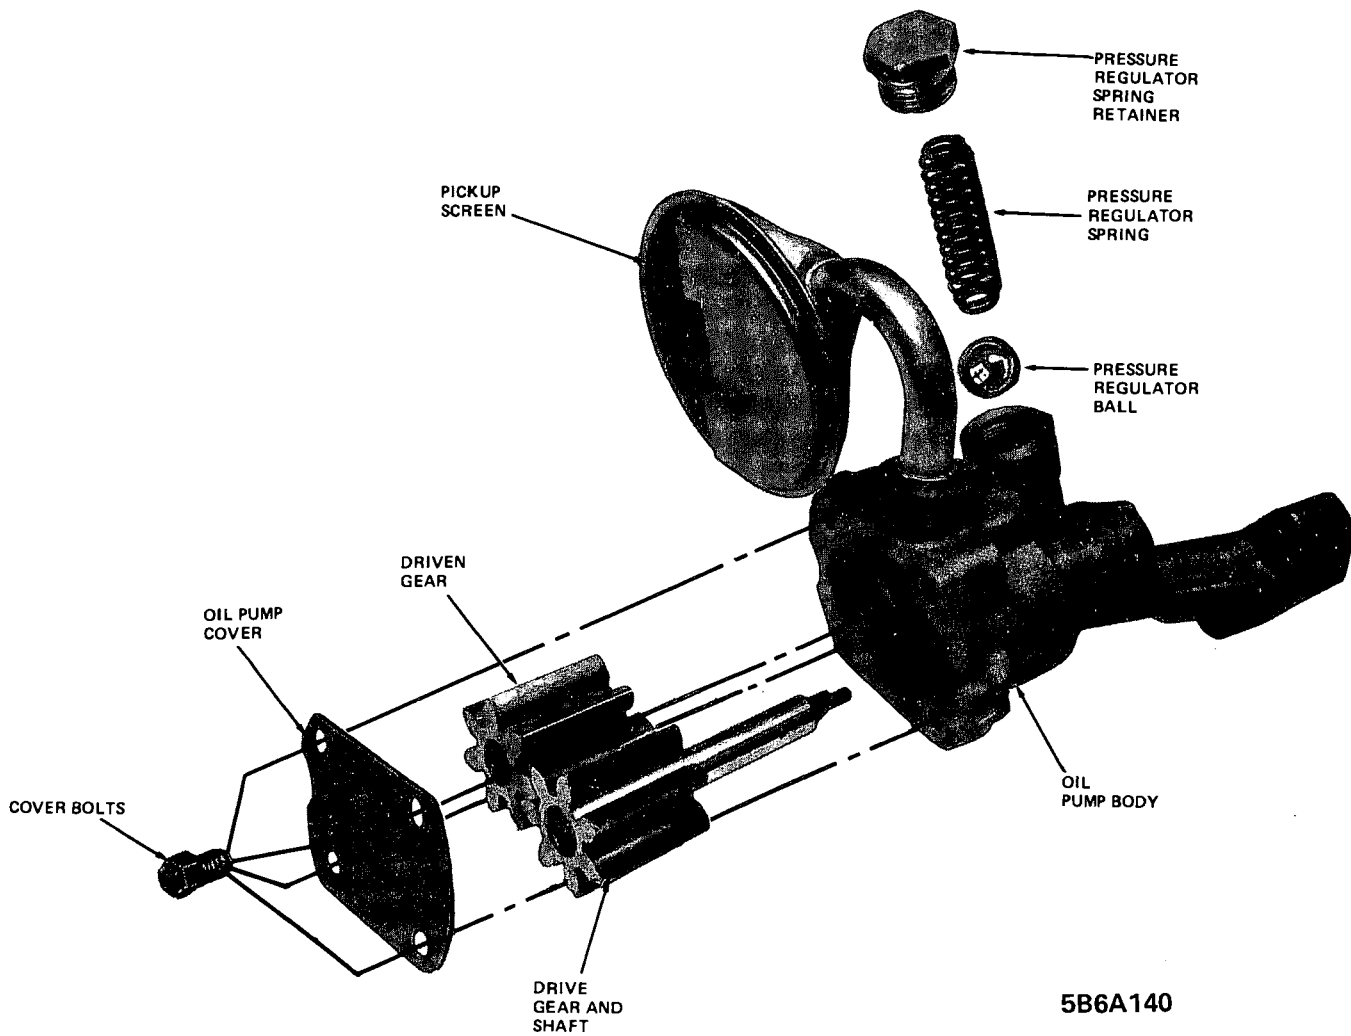

Figure 6A-140 - Oil Pump - Exploded View
e. Remove the newly formed seal from the cap and cut four (4) pieces approximately 3/8" long from this seal.
g. Form another new seal in the cap (Figure 6A-142).
j. Apply a 1/16" bead of silicone rubber sealer to cap parting line. Extend sealer continuously from center of seal (packing) to the outer gasket groove (Figure 6A-142).
4. Make a tool for removing upper half of bearing shell as shown in Figure 6A-143.
5. Insert tool in oil hole of crankshaft and rotate crankshaft in usual direction of rotation. This will cause bearing to be moved from between shaft and bearing seat (Figure 6A-144).